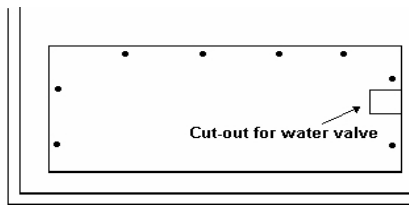

Figure 8
6. If the condenser coil is interior (see Figure 8), you will need to remove the screws that attach the access cover at the bottom of the unit. While cover is off look to see if you need to cut away the opening for the water inlet valve.